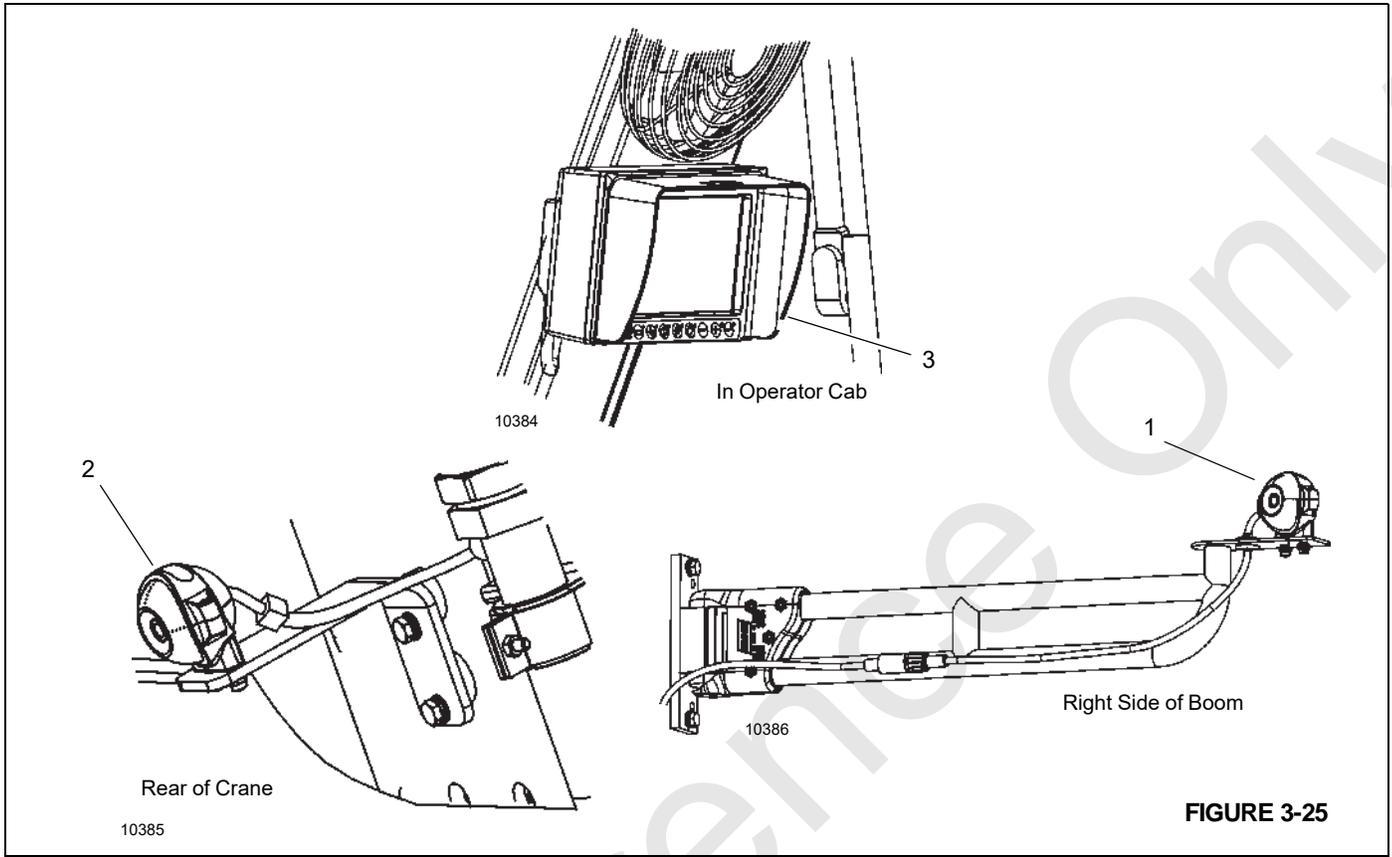

FIGURE 3-25
- Hoist Camera—This camera (1, Figure 3-25) enables the operator to view the hoists during operation.
- Rear View Camera—This camera (2) enables the operator to view in the rear of the crane, including the swing area and outriggers that aren't visible from the cab.